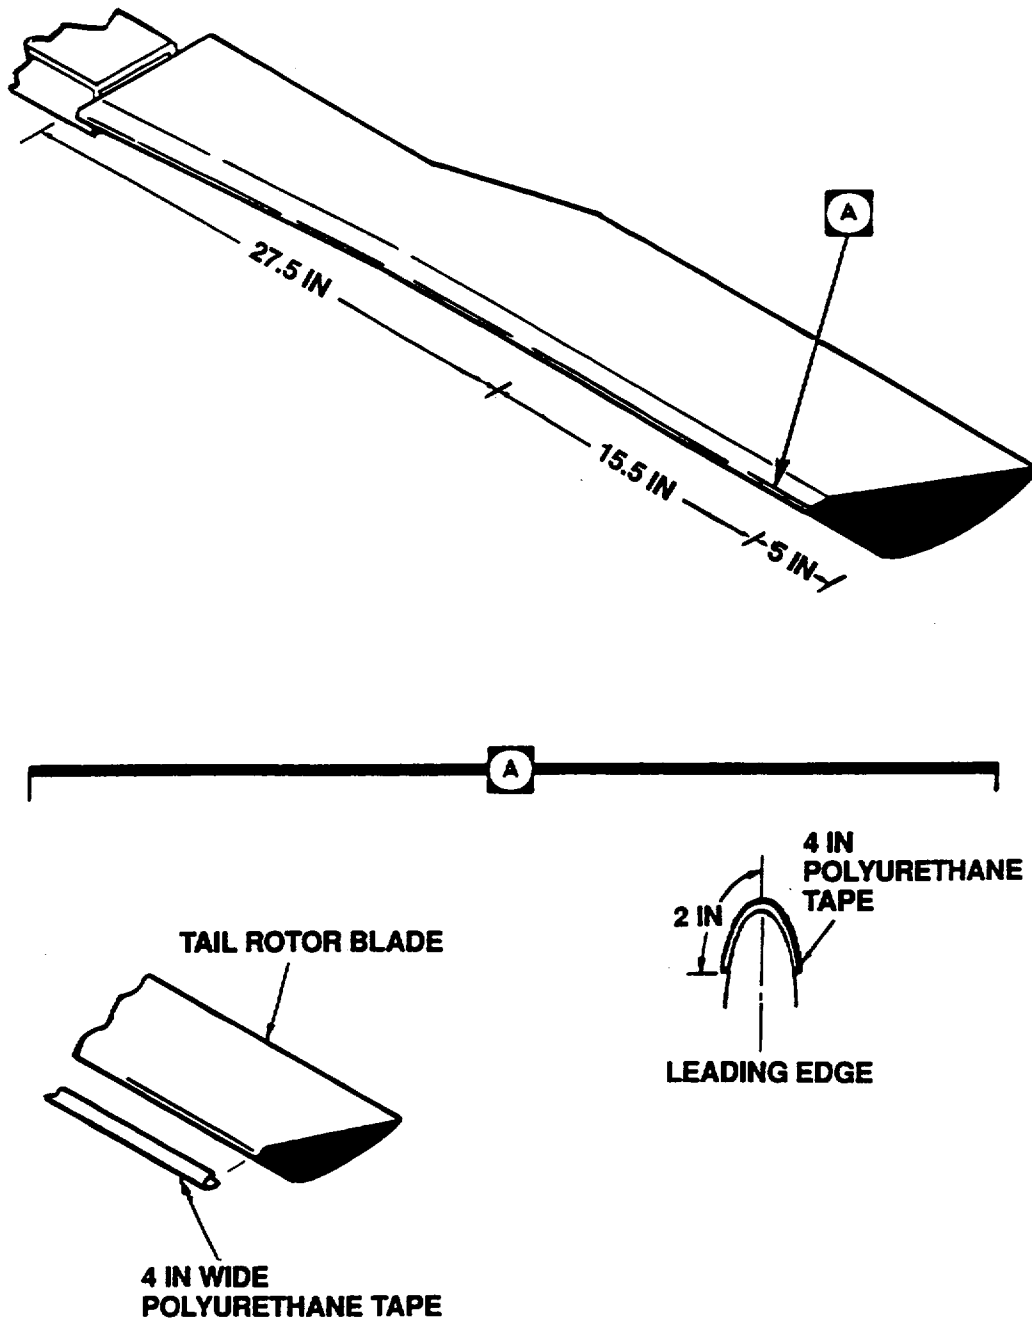

Figure 3-30. Tape Application, Tail Rotor (UH-60)
- Reference Figure 3-30.
(1) Cleaning. Clean area on blade to be covered with cheesecloth or machinery towel dampened with MEK, isopropyl alcohol, or denatured alcohol.
- (2) Scuff area on blade to be covered using abrasive paper. Clean surface using cheesecloth or machinery towel dampened with isopropyl or denatured alcohol, then wipe once again with a clean, dry cloth.
- (3) Cut 2 pieces of 4-inch polyurethane tape, one piece 27.5-inch long and one piece 15.5-inch long per blade.
- (4) Mix abrasion adhesive promoter, diluted in equal parts with toluene, using wooden spatula, and 1-quart container.
- (5) Apply thin coat to area to be covered by tape using paint brush. Minimum drying time 5 minutes. Tape must be applied maximum 1-hour after promoter application.